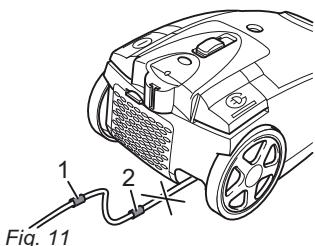
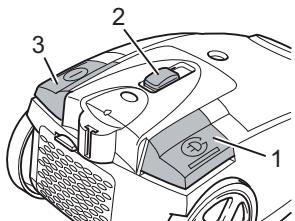

Fig. 11
Fig. 12
2. Remove the cable, by holding the plug, until the yellow mark is reached (Fig. 11/1).
If the red mark (Fig. 11/2) is visible, use the cable retract button (Fig. 12/3) to draw the cable in again up to the yellow mark. Otherwise the cable can break off. There is a risk of electric shock.
3. Switch on the cylinder vacuum cleaner using the on/off switch (Fig. 12/3).
4. Turn on the suction using the suction controller (Fig. 12/2).